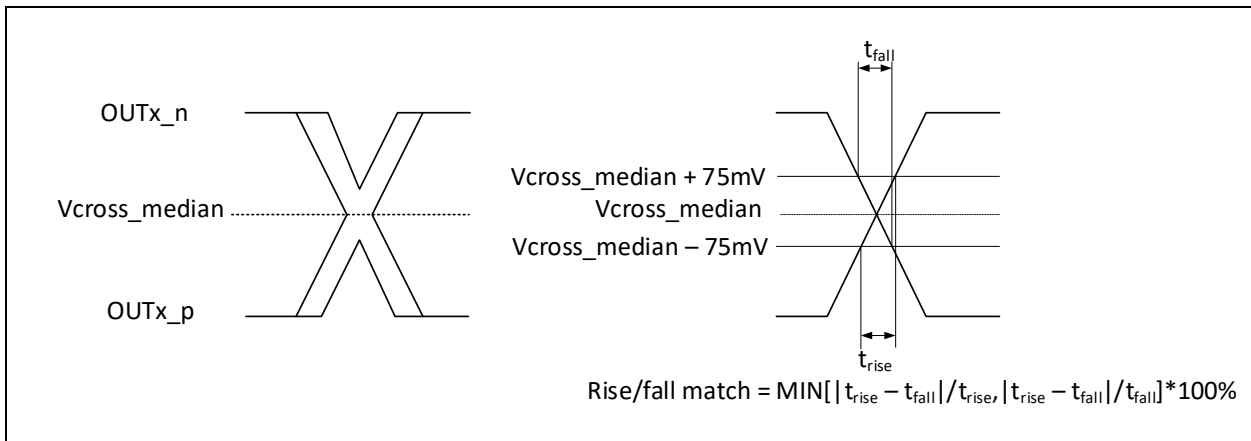

Figure 16. Single-Ended Measurement Points for Rise and Fall Time Matching
(12) Matching applies to rising edge rate for CK_x and falling edge rate for CK_{#x}. It is measured using a ±75 mV window centered on the median cross point where CK_x rising meets CK_{#x} falling. The median cross point is used to calculate the voltage thresholds the oscilloscope is to use for the edge rate calculations. The Rise Edge Rate of CK_x should be compared to the Fall Edge Rate of CK_{#x} the maximum allowed difference should not exceed 20% of the slowest edge rate. See Figure 16.
(13) Clock DC impedance tolerance depends only on the tolerance of external 50Ω shunt resistors used in HCSL. The test used resistors with +/-1% tolerance.
(12) Matching applies to rising edge rate for CKx and falling edge rate for CK#x. It is measured using a ±75 mV window centered on the median cross point where CKx rising meets CK#x falling. The median cross point is used to calculate the voltage thresholds the oscilloscope is to use for the edge rate calculations. The Rise Edge Rate of CKx should be compared to the Fall Edge Rate of CK#x the maximum allowed difference should not exceed 20% of the slowest edge rate. See Figure 16.